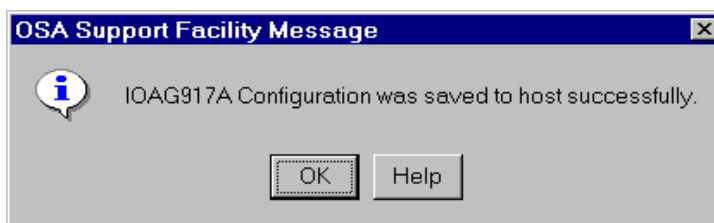

Figure 8-9 Message to indicate configuration saved successfully
1. From the pull-down menu, select **Configuration -> Save**. This will ensure that the configuration is saved. Once saved, you should see the message displayed in Figure 8-9.